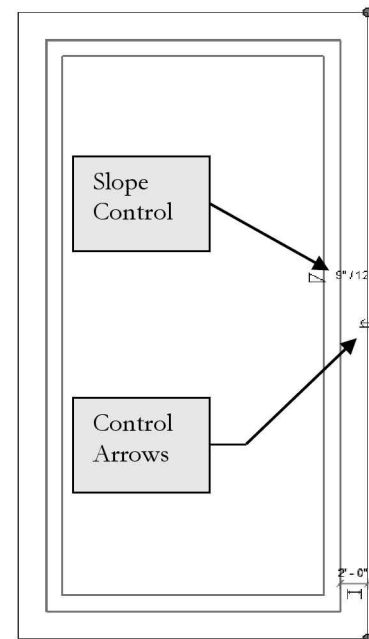

FIGURE 6-3.8 Selected walls
32. Select the remaining three walls (Figure 6-3.8).
FYI: You can also change the slope of the roof by changing the Slope Control text (see Figure 6-3.8); just select the text and type a new number.